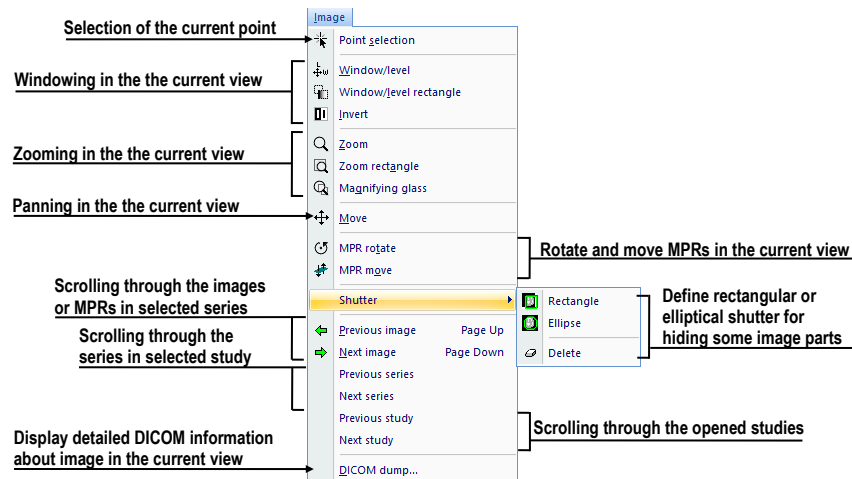

Figure 39 – Image menu
- **Image** – the viewing and handling of images. It contains a comprehensive group of functions for windowing and zooming images in a view, creating shutters and reading raw DICOM data of images (see Figure 39).